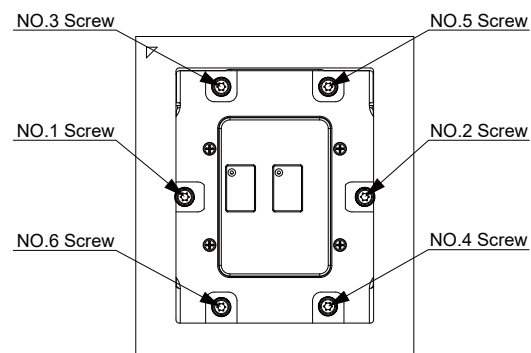

Figure 2
- 4.Tighten the two diagonal heat sink mounting screws, i.e. the #1 and #2 screws (Figure 2), Then do the same with the remaining four diagonal heat sink mounting screws.